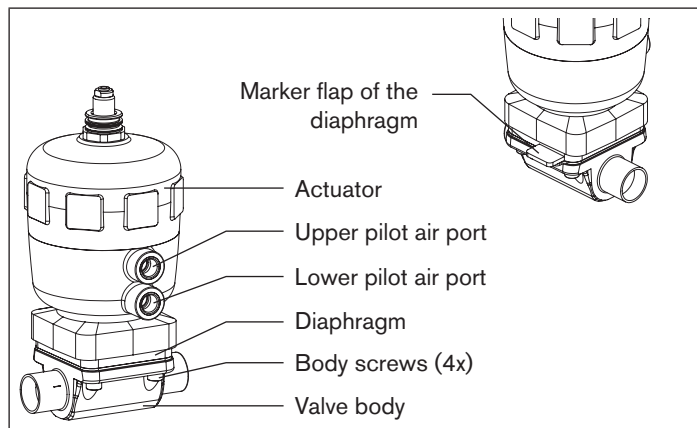

Fig. 17: Repairs
The marker flap of the diaphragm must be perpendicular to the direction of flow (see "Fig. 17")!
- Pressurize upper pilot air **port** of the actuator with compressed air (5 bar) (see “Fig. 17”).